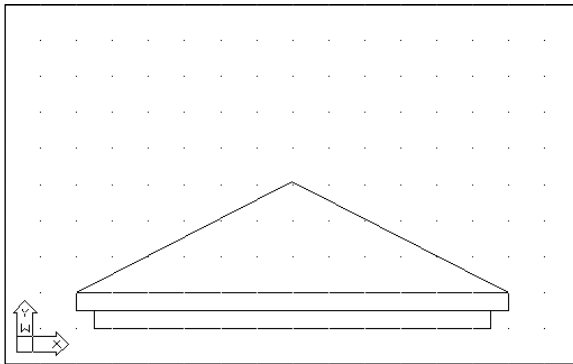

Figure 5-5: The final architectural drawing.
9. Save your drawing. It should look like Figure 5-5. Notice how the grid and snap settings facilitate the drawing process.